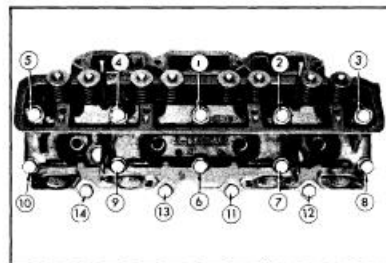

Figure 2-17—Cylinder Head Bolt
(1) When handling thin crimped steel gaskets use care to prevent damage to the lacquered surface coat and to prevent kinking at sealing rings stamped in gasket. The lacquered gasket should not be coated with any type of sealing material when installed. Always use a new steel gasket because the stamped sealing rings are flattened in a used gasket.
(2) Right and left cylinder heads are identical except that the water inlet port is open at front end and is plugged at rear end as installed on engine.
(3) After installation of cylinder head, tighten all bolts a little at a time about three times around in sequence shown in Figure 2-17,